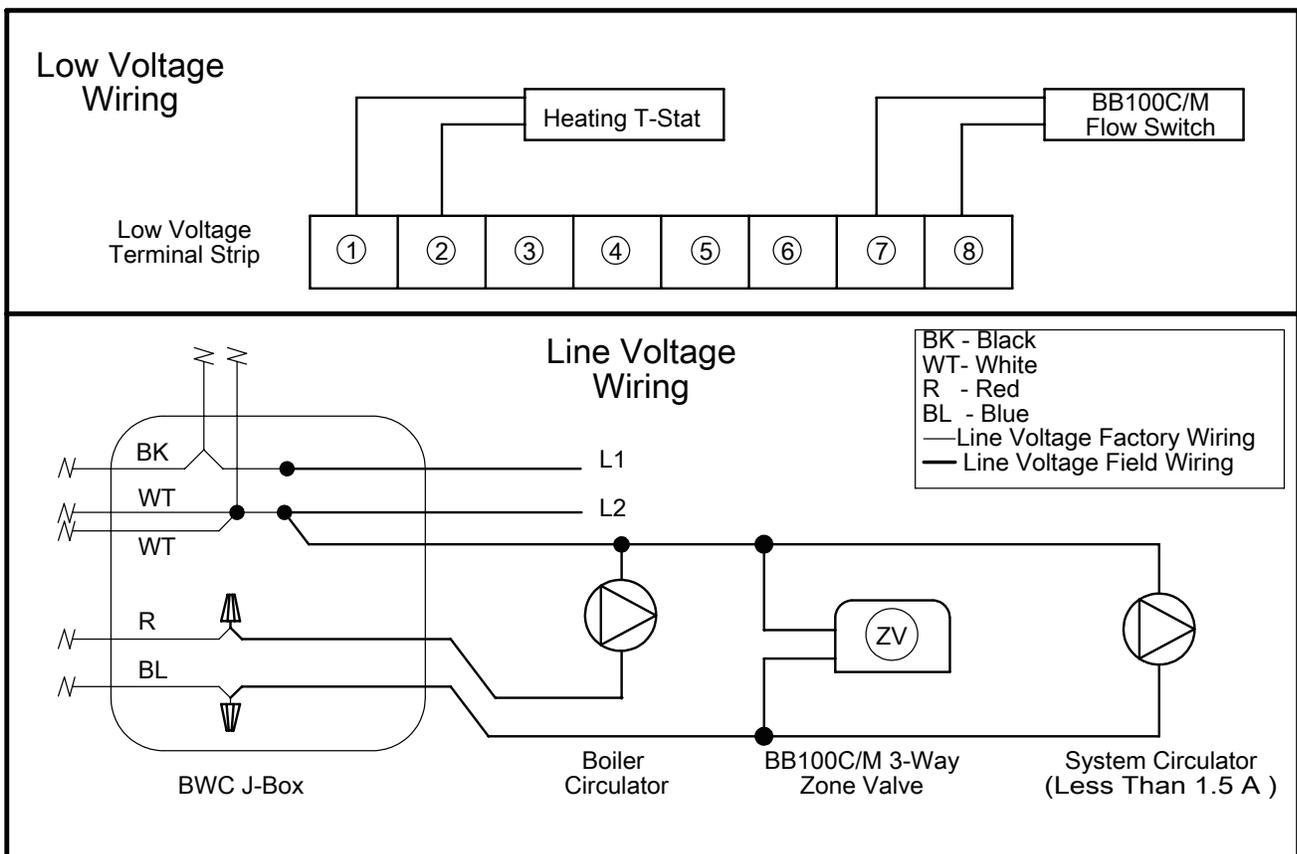

FIGURE 7.4: Wiring BB100C to Boiler equipped with Type III MCBA
- 5) Connecting BB100C to Type III MCBA Equipped boilers (Figure 7.4):